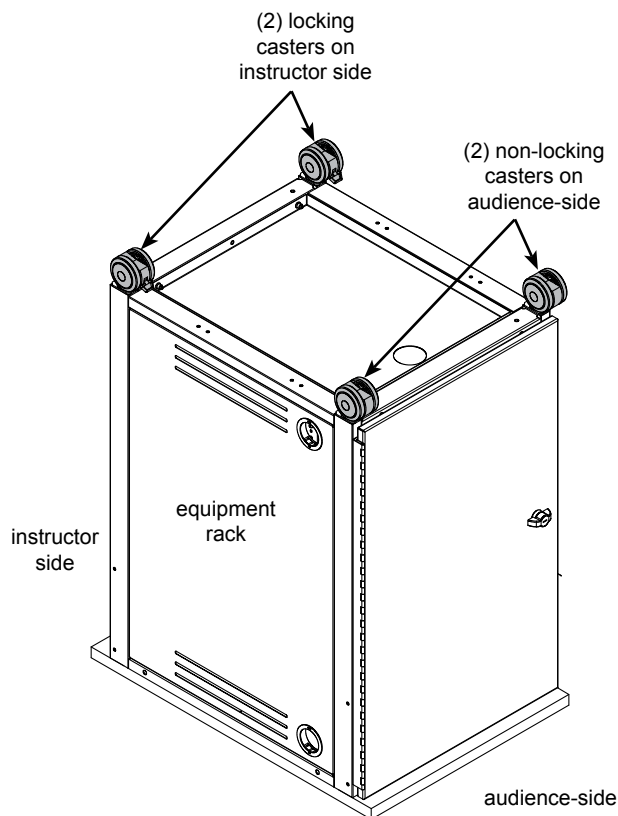

Figure 1B
3. For a free-standing equipment rack, install all 4 casters or glides. **Figure 1B.**